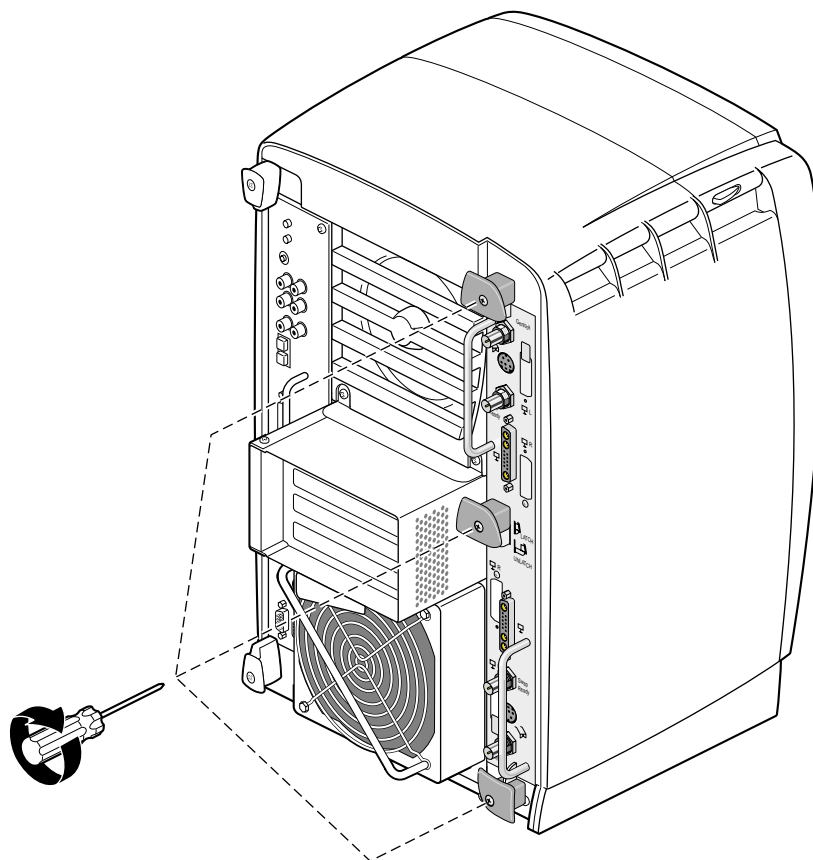

Figure 1-14 Replacing the Dual Head XIO Module Screws
5. Gently tighten each of the three captive screws in the plastic knobs, as shown in Figure 1-14. Be careful not to cross-thread these screws and do not over-tighten them.